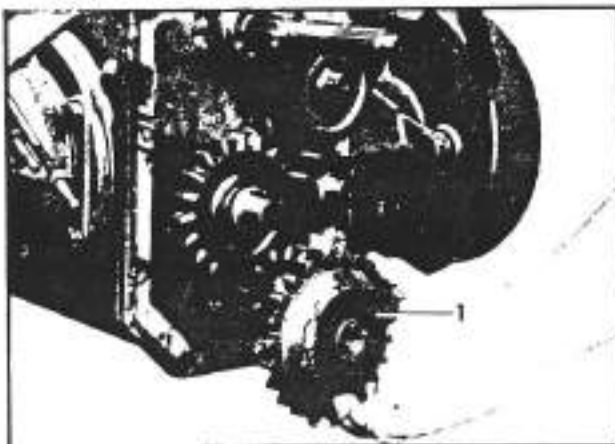
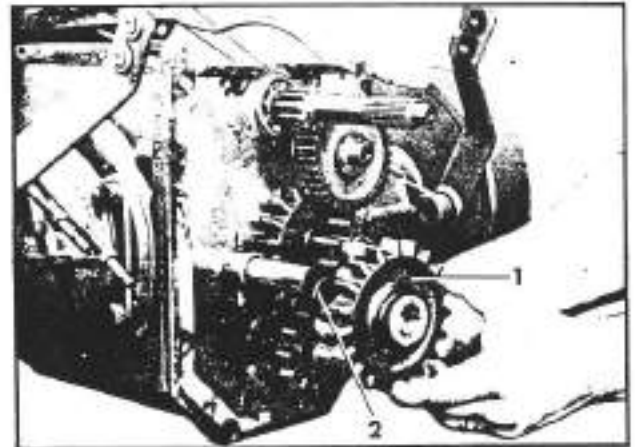
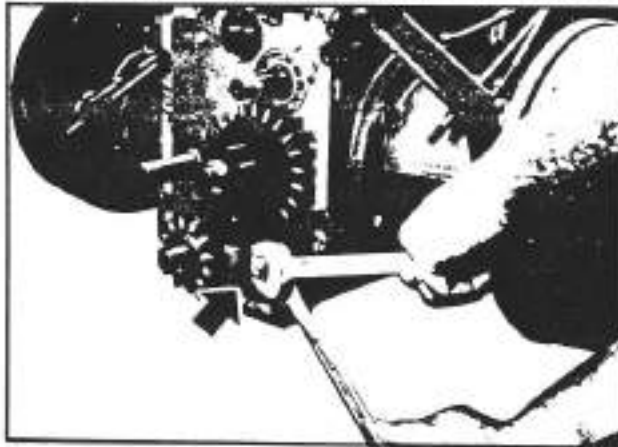
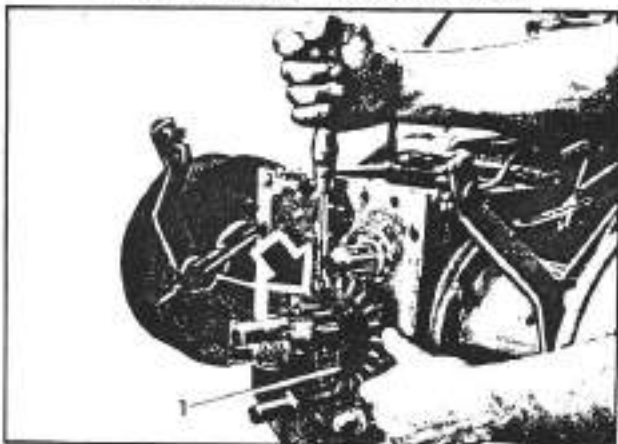

Fig. 3-16. Removal of the reduction bell gear
Fig. 3-17. Removal of the reverse gear and washer
Fig. 3-20. Removal of the control fork group
Fig. 3-21. Removal of the double idling gear
- m. Ease out the reduction bell gear (1; fig. 3-16) and the reverse gear (1; fig. 3-17) with its relative washer (2; fig. 3-17).
- o. Loosen the lock nut of the control fork of the Part I sliding gear as indicated in figure 3-20 and extract the entire group.
- p. As shown in figure 3-21, ease out the double idling gear (1; fig. 3-21).
- Ascertain that, after assembly, the reverse gear (see figure 3-20), slides easily along the shaft, and that the reduction bell gear (1; fig. 3-16) meshes perfectly with the idling gears (1; fig. 3-21).
- Mount the reverse gear (1; fig. 3-17) so that the collar of the bushing faces the clutch bell housing.